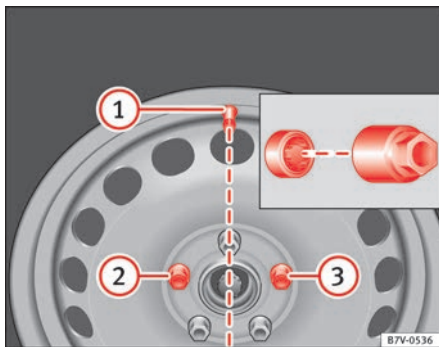

Fig. 182 Changing the wheel: Tyre valve (1) and position of anti-theft wheel locking bolt (2) or (3).
Before mounting the full hubcap, the anti-theft wheel lock must be threaded into position ⇒ fig. 182 ② or ③. Otherwise it will not be possible to mount the full hubcap.
Press the hubcap against the wheel so that the space for the valve fits over the tyre valve ⇒ fig. 182 ①. Make sure that the hubcap is correctly fitted all the way around the wheel.
For wheels with full hubcap, the anti-theft wheel lock must be threaded into position ⇒ **fig. 182** (2) or (3) before mounting the hubcap. Otherwise it will not be possible to mount the full hubcap.
- Screw on the anti-theft locking bolt with the adapter in position ⇒ **fig. 182** ② or ③ clockwise and tighten gently.